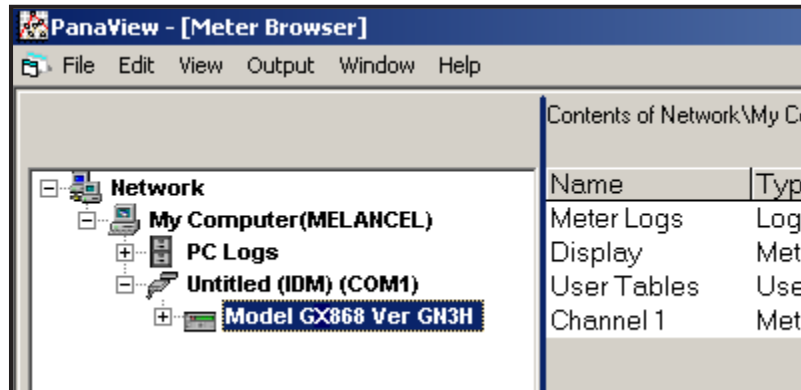

Figure 22: The Updated Network Tree
If the initialization is successful, the Meter Browser shows a listing similar to Figure 22.
1. Highlight the meter (as shown in Figure 22 on page 100).